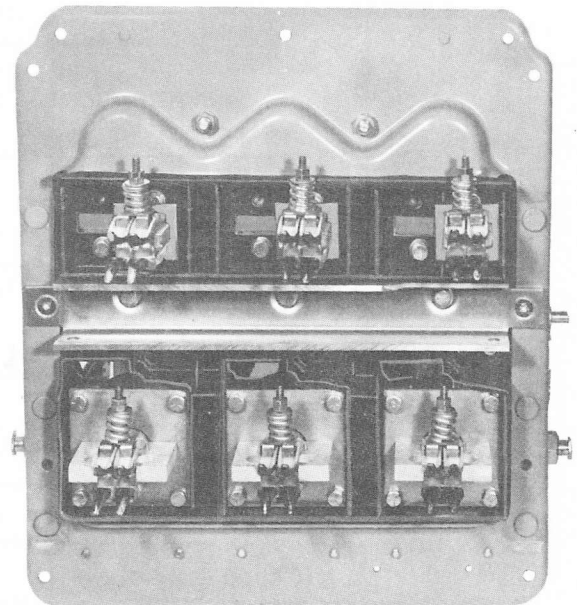

Fig. 1. Rear view of AKR-30 breaker
- b. Primary studs carry four disconnect fingers per pole. See Fig. 1.